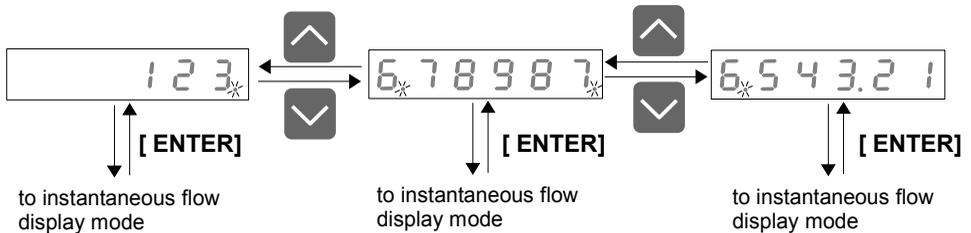

Figure 6.1. Switching between digits (screens) of total flow result.
- while medium digits are displayed both most left and most right decimal points are flashing (Figure 6.1). Most right decimal point signalizes than result has less significant digits – to see these digits press [v] button. Most left decimal point signalizes additional more significant digits. Press [^] button to see these digits.